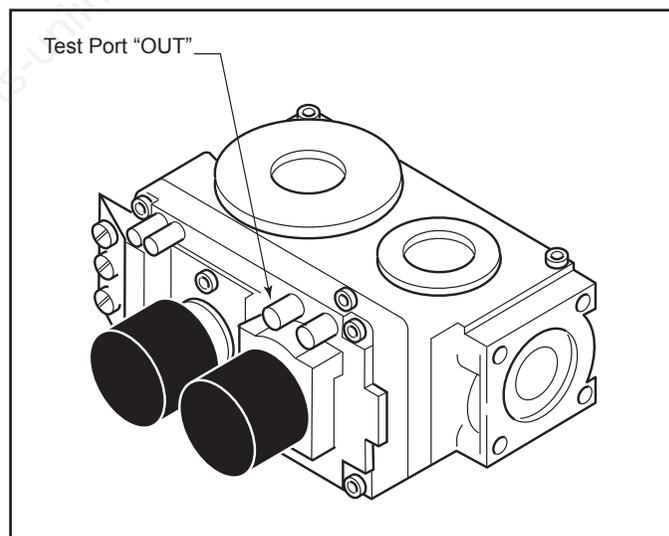

Figure 4.2 - Pressure Test Point Location Millivolt Control
The valve regulator controls the burner pressure which should be checked at the pressure test point. Refer to Figure 4.2.
- Valve pressure taps are accessible by removing the right side log. See Figure 4.2.